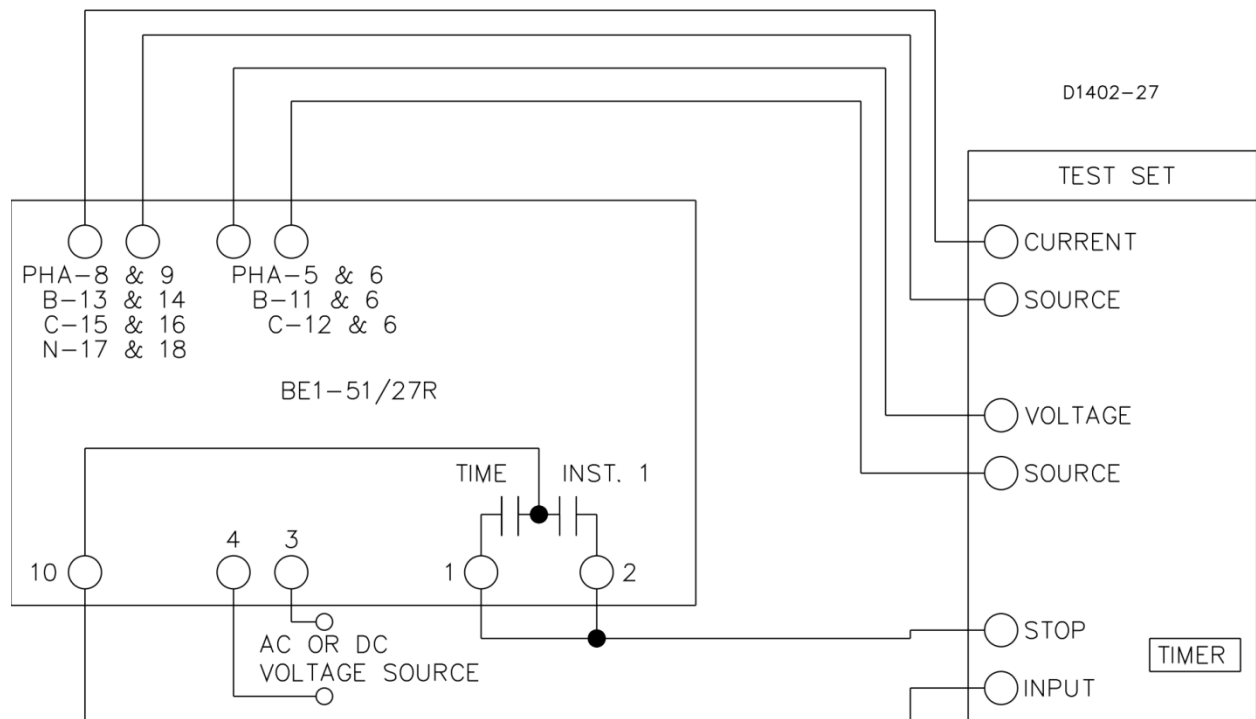

Figure 5-3. Test Setup for Sensing Input Type U or W (Three-Phase with Neutral Sensing)
- (c) Sensing Input Type U or W (Three-Phase with Neutral Sensing). Refer to Figure 5-3.
- (d) Sensing Input Type E, F, U, or W (Three-Phase with Neutral Sensing). Remove the power and reconnect the input sensing to each of the remaining phases as shown in Figures 5-3 and 5-5, each time repeating Steps 1 through 10. For neutral testing, continue with Step 12.
For the neutral sensing (terminals 17 and 18), connect the relay as shown in Figures 5-3 and 5-5, then perform the following steps (Steps 13 through 21).
- Step 11. Remove the power and reconnect the test output to the neutral current sensing input of the relay as shown in Figures 5-3 and 5-5 (terminals 17 and 18).